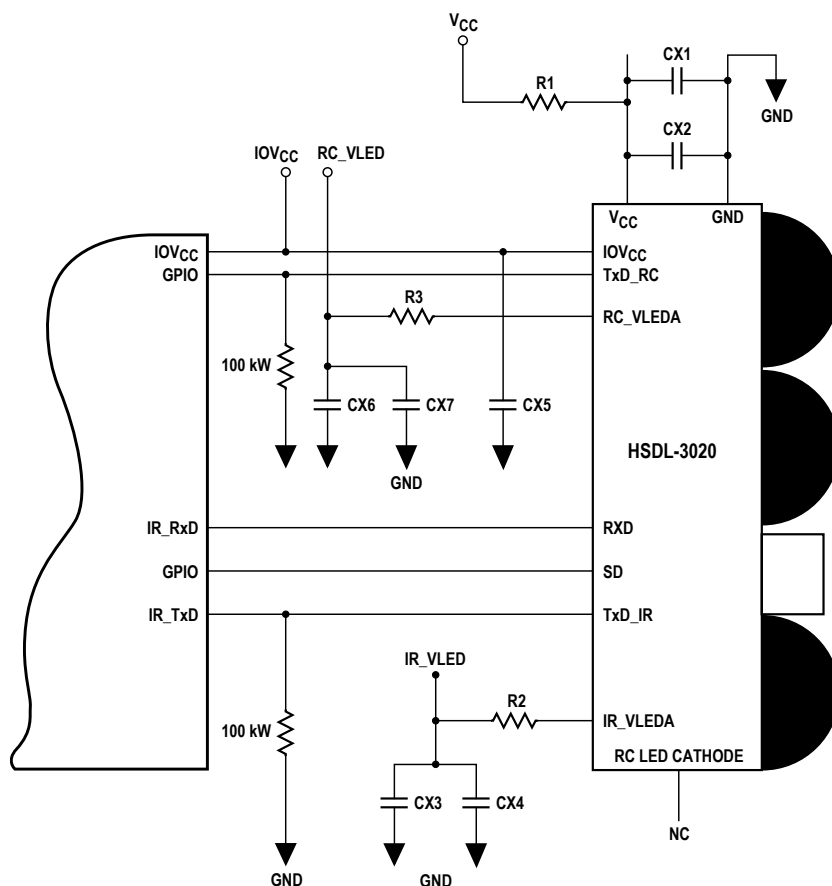

Figure 3: HSDL-3020 configuration with general mobile architecture processor.
* Detailed configuration of HSDL-3020 with the controller chip is shown in Figure 3.
The transceiver is directly interfaced with the microprocessor provided its support infrared communication commonly known as Infrared Communications Port (ICP). The ICP supports both SIR data rates, with up to 115.2 kps, and sometimes FIR data, with data rates up to 4 Mbps. The remote control commands can be sent to one of the available General Purpose IO pins or the UART block with IrDA functionality. It should be observed that although both IrDA data transmission and Remote control transmission is possible simultaneously by the hardware, the software is required to resolve this issue to prevent the mixing and corruption of data while being transmitted over the free air. The above Figure 3 illustrates a reference interfacing to implement both IR and RC functionality with HSDL-3020.